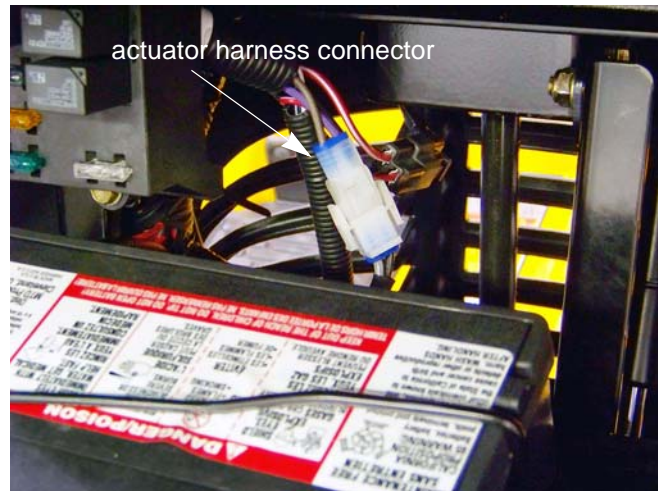

Figure 8.46
2. Disconnect the lift actuator harness. See Figure 8.46.